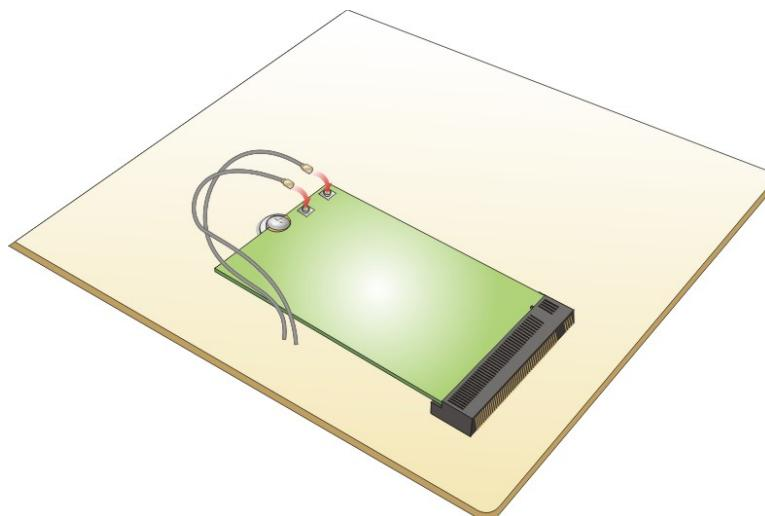

Figure 3-8: Connecting RF Cables
Step 3: Secure the WLAN module with the retention screw previously removed (**Figure 3-8**).
Step 4: Connect the two RF cables to the antenna connectors on the WLAN module (Figure 3-8).